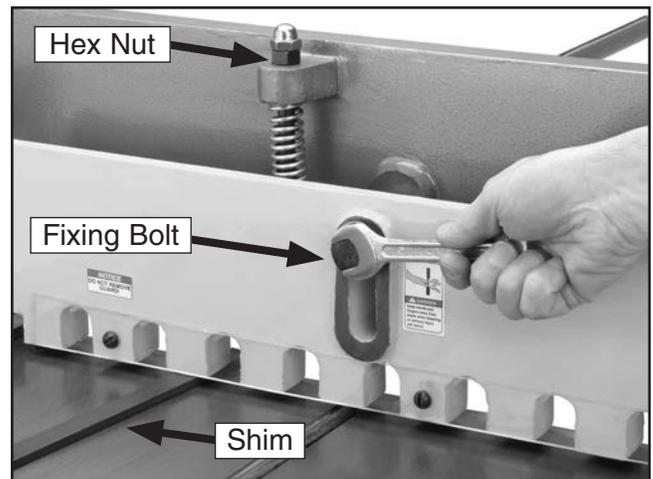

Figure 11. Tightening hold down.
4. Tighten the two fixing bolts on the front of the hold down to secure it in place (see **Figure 11**).